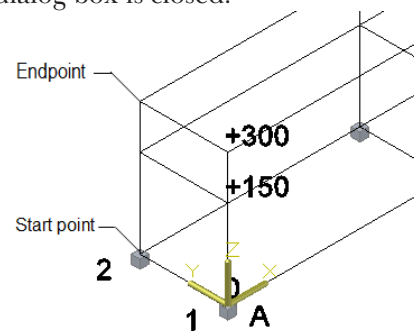
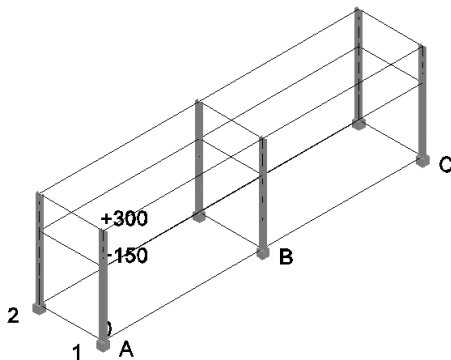

Figure 3-30 Selecting the start point and the endpoint of the column
Figure 3-31 Model after creating columns
4. Select the start point, as shown in Figure 3-30; you are prompted to select the endpoint.
5. Move the cursor vertically upward and snap to the grid point, refer to Figure 3-30. Next, click to select it; the column is created between the two selected points. Similarly, place columns on other footings, as shown in Figure 3-31. You can also use the **Copy** command to create rest of the columns.